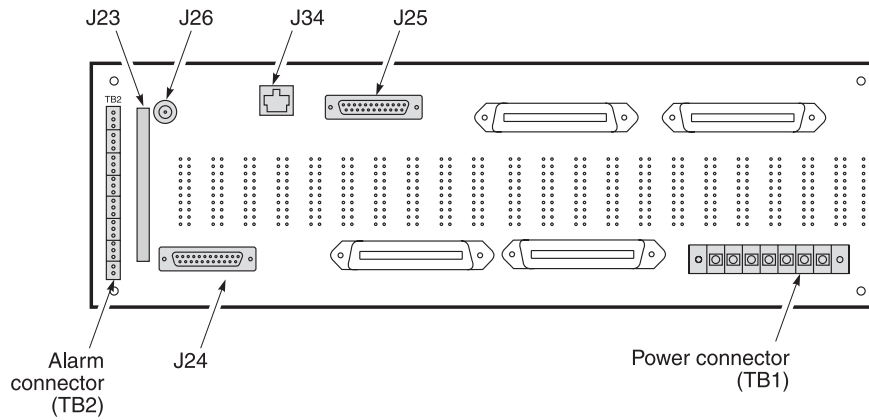
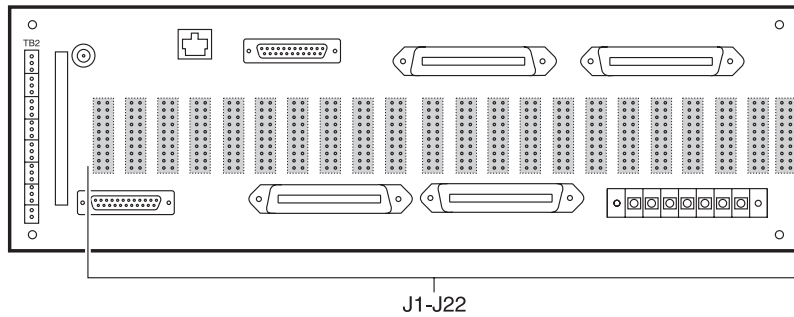

Figure 2. HMS-318 List 2B Connector Locations
Figure 3. HMS-318 List 2B HLU Wire-Wrap Pins
Both connectors and wire-wrap pins are provided for connecting to the DSX-1 and HDSL spans (Figure 2 and Figure 3).
- 2 Connect frame ground (FG) according to local grounding practices.
- Plug the DSX-1 interface cables into P1 and P2 and the HDSL interface cables into P3 and P4 (Figure 2 on page 2). Span connections are listed in Tables 2 through 5 on pages 7 through 10. Table 6 on page 11 shows the standard PIC cable color codes.